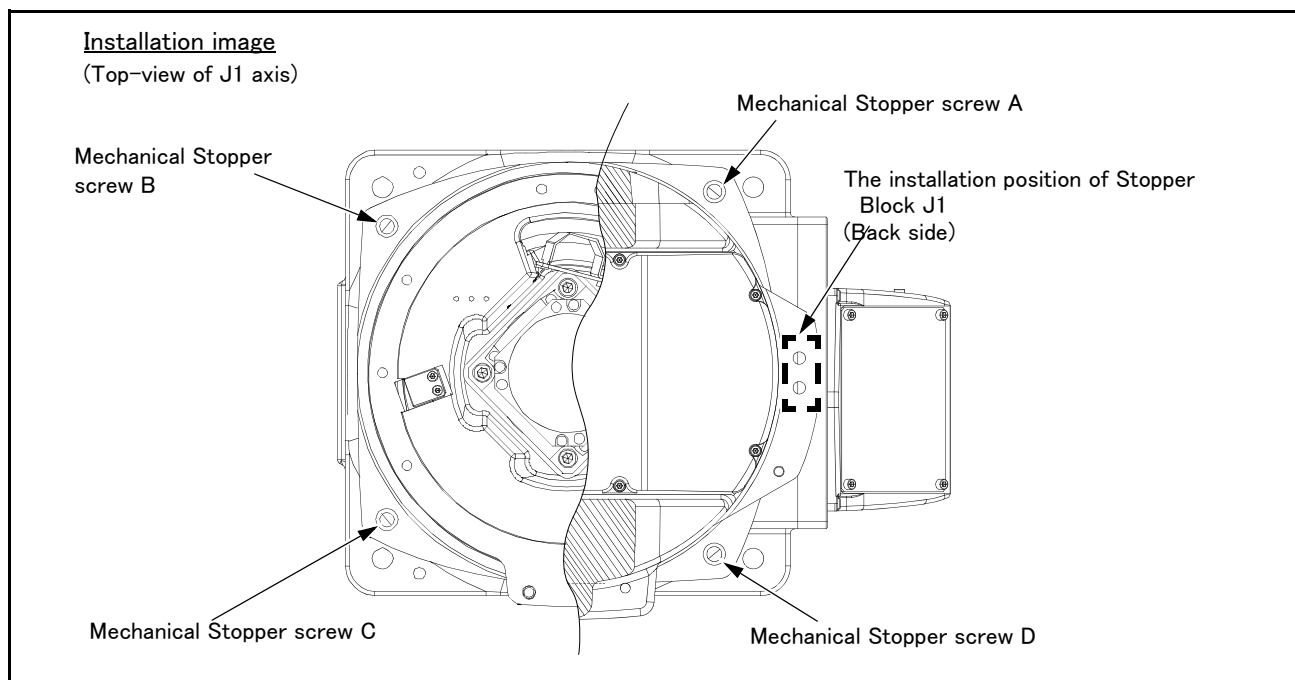

Fig.3-4 : Installation image of J1axis operating range change option (RV-13FR series)
Note1) Symbol: “(A)” – “(D)” in the Table 3-11 is related with the symbol of “Fig. 3-4: Installation image of J1 axis operating range change option \(RV-13FR series\)”.
- 4) Install the <3> Mechanical Stopper screw. Install the <3> attached Mechanical Stopper screw to the needed point with referring to Table 3-11 and Fig. 3-4.